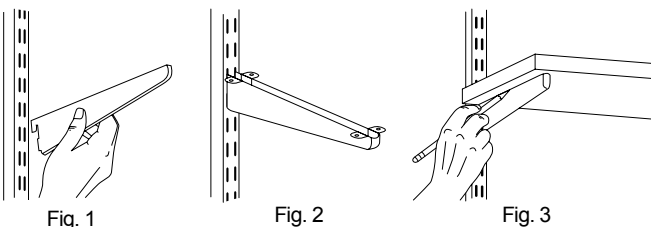

Fig. 1
- 1 Install the Special-purpose Brackets into the slots of either Wall-mount or Top-hung Rails (Fig. 1)